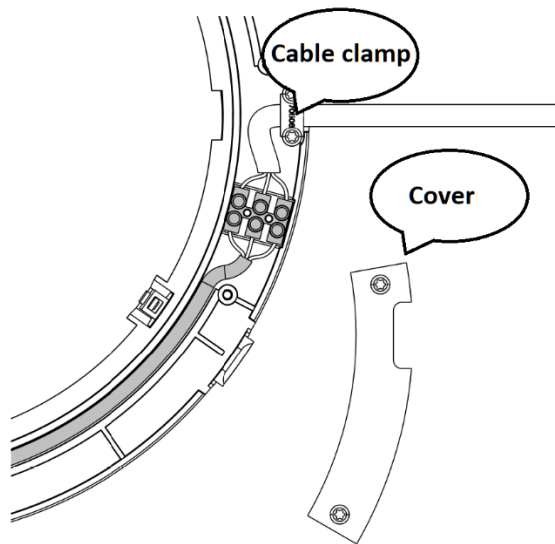

Figure 35 - 230V cable connection from the right with cable clamp
6. Move the cable clamp and cover from the wall cover's top, and attach them to their new location, see Figure 35.